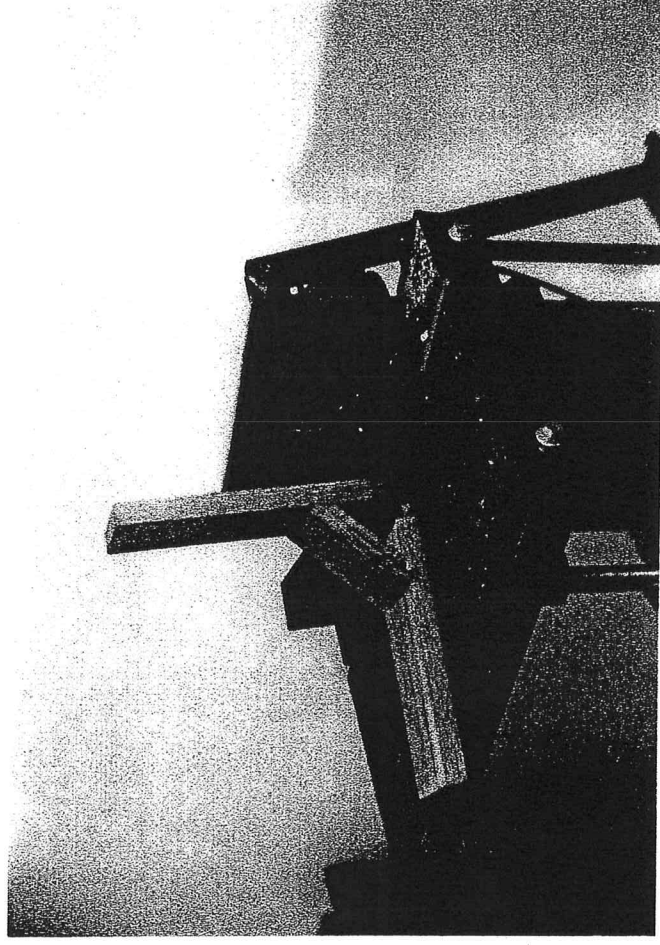

Fig. 24
10. Assemble joint and inspect fit. (fig. 24)